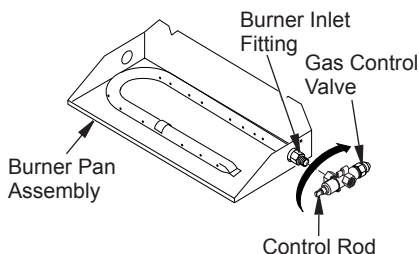

Figure 8 - Installing Gas Control Valve
1. Thread gas control valve onto burner inlet fitting (see Figure 8). Use thread sealant on male threads of burner inlet fitting. Hold burner inlet fitting with a wrench to prevent overtightening connection to the burner. Make sure control rod is facing the front (see Figure 8).